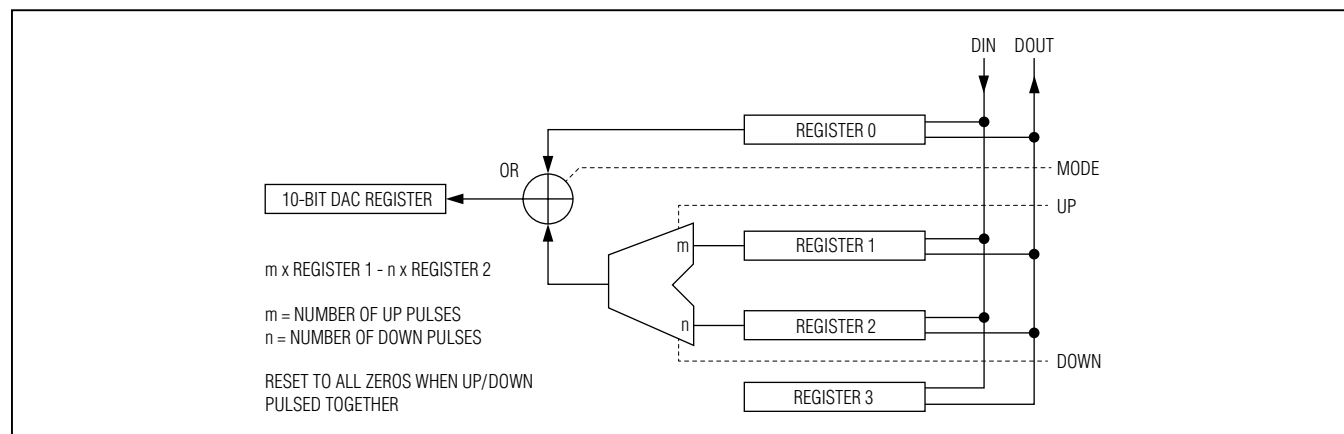
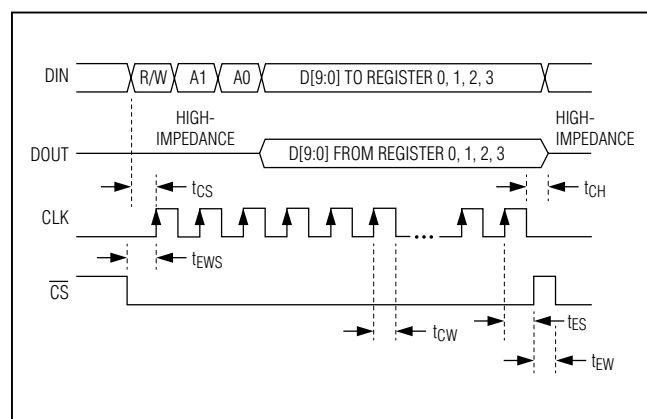
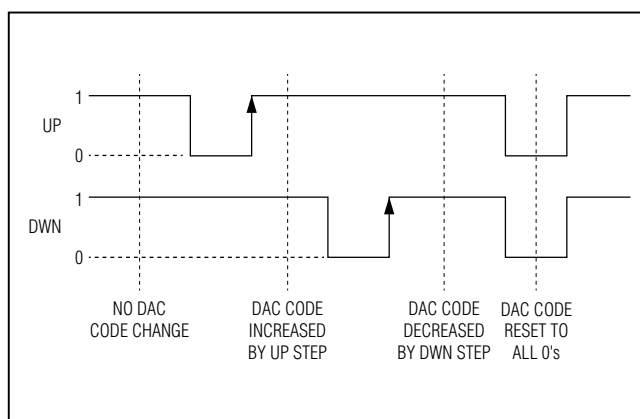

Figure 1. Register Configuration Diagram
Figure 2. SPI Timing Diagram
Figure 3. UP/DWN Control Diagram (MODE = 1)
Figure 1 shows the configuration of the internal registers of the device and Figure 2 shows the timing of the SPI bus. Register 0 sets the DAC code to the desired value, register 1 selects the step-up code, and register 2 selects the step-down code.
After powering up the device, UP and DWN should both be set to 0 to reset the m and n counters to 0. This results in a 10-bit all 0 code out of the mathematical block in Figure 1, and applied to the 10-bit DAC register that drives the DAC. To increase (decrease) the code using the UP (DWN) pin, the DWN (UP) pin must be high and the UP (DWN) pin should be pulsed low to high. The device is designed to produce no wraparounds when using UP and DWN stepping so that the DAC code maxes out at 1023 or goes no lower than 0. See Figure 3 for the UP and DWN control operation.
The device can be controlled with a 4-wire, SPI-compatible serial interface. Figure 2 shows a timing diagram for the interface. In the write mode, a 13-bit word is loaded into the device through the DIN pin, with $\overline{\text{CS}}$ set low. The first bit of the word in the write mode is 0, and the next two bits select the register to be written to (Table 2). The next 10 bits contain the data to be written to the selected register. After the 13 bits are shifted in, a low-to-high $\overline{\text{CS}}$ command is applied and this latches the 10 bits into the selected register. The entire write command is ignored if $\overline{\text{CS}}$ is pulsed low to high before the last data bit is successfully captured.